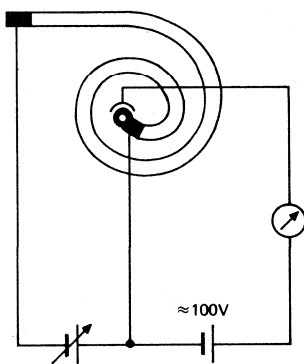
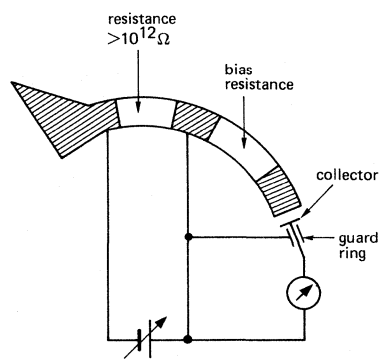

Fig.10
Fig.11
The multiplier may also be used as a current amplifier. In this case an open-ended multiplier is necessary, the output being collected at a separate electrode. This electrode should be biased positively with respect to the output end of the multiplier to ensure collection of all output electrons. Fig.10 shows the basic circuit for open ended (AL) versions of pulse multipliers and Fig.11 shows the circuit for the analogue or pulse/analogue types. For these the bias voltage is provided by a resistive layer on the outer wall (bias resistance in Fig.11) which is about 5% of the total resistance. The CL versions of analogue multipliers are supplied with a collector assembly which incorporates a guard ring to eliminate any leakage currents from the collector current.